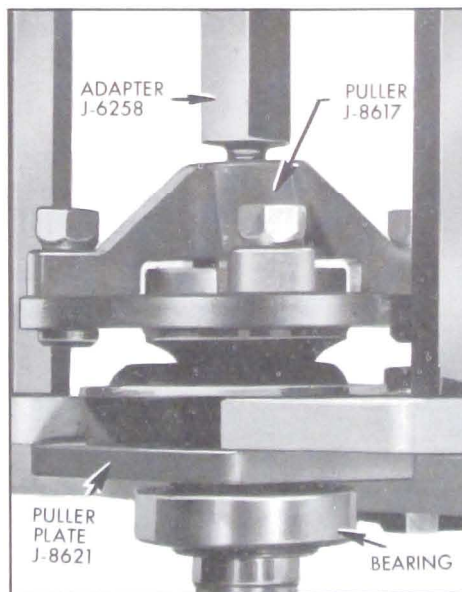

Fig. 6-7—Removing Axle Shaft Bearing
2. Press axle shaft bearing off using Puller Plate J-8621 with Remover J-6525. An arbor press may be used or a set-up may be made using Ram and Yoke Assembly J-6180 with Adapter J-6258 and Puller J-5748. See Figure 6-7.